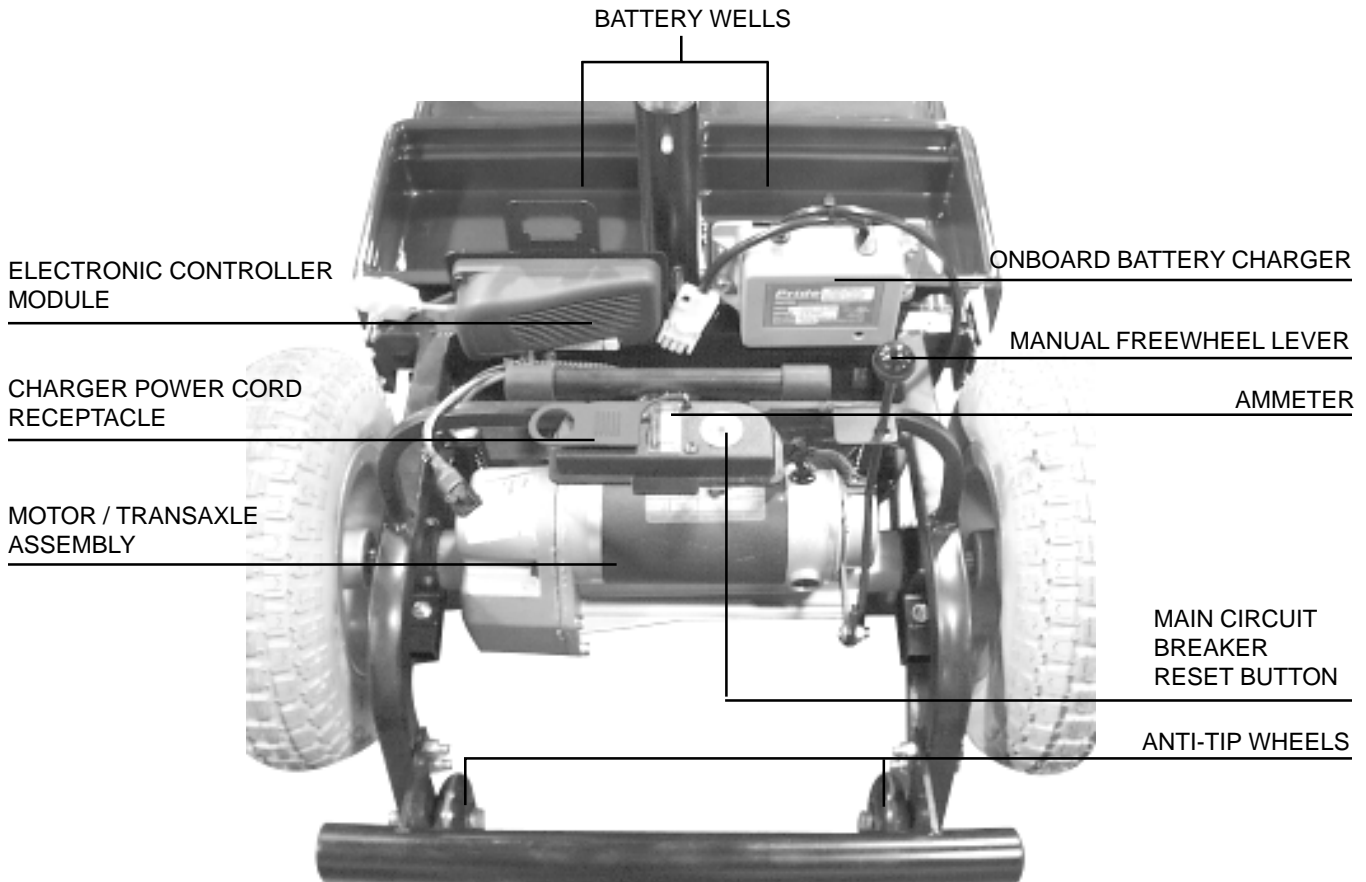

Figure 7. Rear Section
The on-board battery charger, the charger power cord receptacle, the anti-tip wheels, the batteries (not shown), the electronic controller module, the main circuit breaker reset button, the manual freewheel lever, and the motor/transaxle assembly are located on the rear section of your Boxster. See figure 7. See IX. "Disassembly and Assembly" for instructions on removing the rear shroud.
The on-board battery charger converts household current (AC) to direct current (DC) and charges the batteries of your Boxster. See VI. "Batteries and Charging." The charger is located behind the batteries and at the forward right corner of the rear section. The charger is a gray-colored box with a green LED on the exterior of the case. The charger power cord plugs into your Boxster's battery charger by means of a receptacle located on the rear section of your Boxster, near the manual freewheel lever and the main circuit breaker reset button. See figure 7.
You can check the charge of you batteries by looking at the ammeter, which is located between the main circuit reset button and the charger power cord receptacle. See figure 7. The battery charger must be plugged into a wall outlet to obtain a reading. When the amperage reading is at or near zero (0) amps, the battery charging is complete.
When the voltage in your Boxster’s batteries becomes low or your Boxster is heavily strained because of excessive loads or steep inclines, the main circuit breaker may trip to protect your Boxster’s motor and electronics from damage. The main circuit breaker is mounted on the rear section of the Boxster, near the manual freewheel lever. See figure 7.
- The manual freewheel lever is located on the end of the motor/transaxle assembly at the right rear of the Boxster. See figure 7.
The motor/transaxle assembly consists of a geared transmission and differential. This one piece, direct drive, fully sealed assembly provides quiet operation with maximum power and long life. See figure 7.
The anti-tip wheels are an integral and important safety feature of your Boxster. Do not, under any circumstances, remove the anti-tip wheels from your Boxster. See figure 7.
Your Boxster uses two long-lasting, 12-volt, deep-cycle batteries that are sealed and maintenance free. They are recharged by an on-board 3-amp charging system designed for ease of use and convenience. See figure 7.
4. Plug the charger power cord into the charger power cord receptacle at the rear of your Boxster. See figure 7.